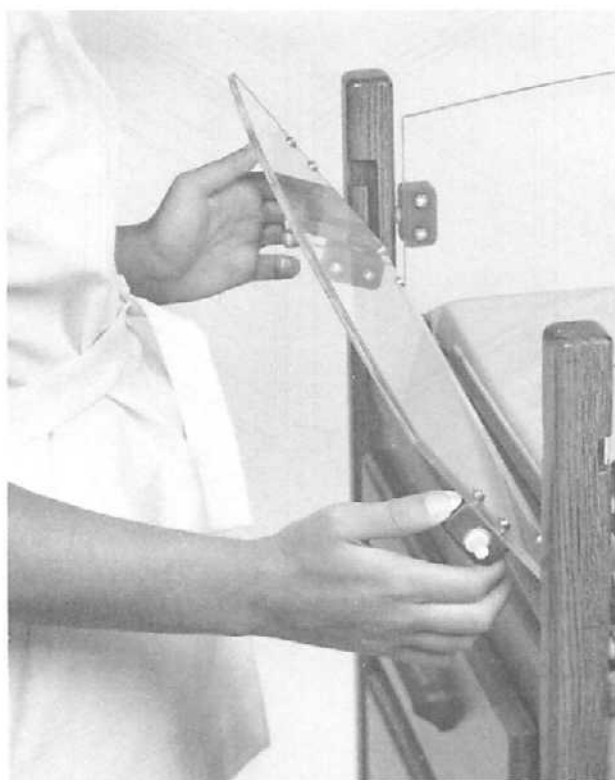

FIGURE 2.5 INSTALLATION OF SIDE PANELS
- A. INSTALL THE FOUR CASTERS (1) on the cart using the 3/4 inch nuts and lockwashers (2, 3). Install the two casters with brakes at the front of the cart.
- D. INSTALL THE SIDE PANELS in the cart by sliding the bottom plastic pivot pins into the slots of the corner posts (Figure 2.5). Make sure the panel is properly seated (all four pivot pins are in the corner post slots).